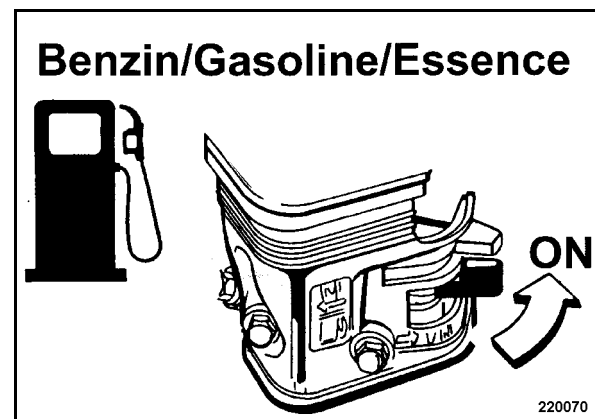

Fig. 15
- Open the fuel cock (Fig. 15) by turning in direction of arrow to the end stop.